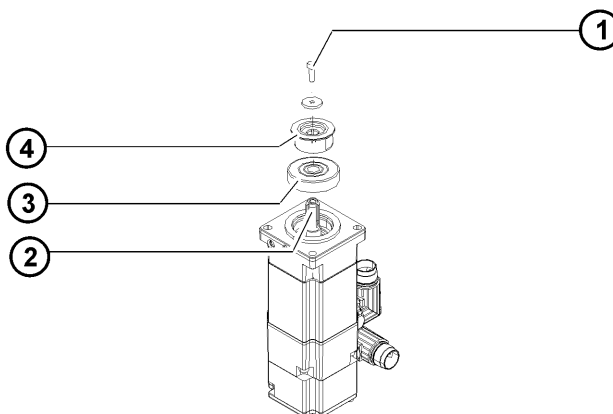

Fig. 11-11: Motor with toothed belt pinion
1. If necessary, remove all protective coatings and oil from the new motor A5 (>>> Fig. 11-11).